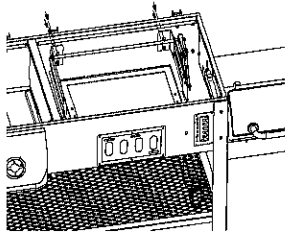

Fig. 16A
*Locate:* Charcoal Tray Lift System Lift Handle, (2) Short Hinge Pins and (2) "R" Clips and (4) M6X15 bolts .
Refer to Fig.16A.Using (4)M6X15 bolts to fix the Charcoal Tray Lifting System.